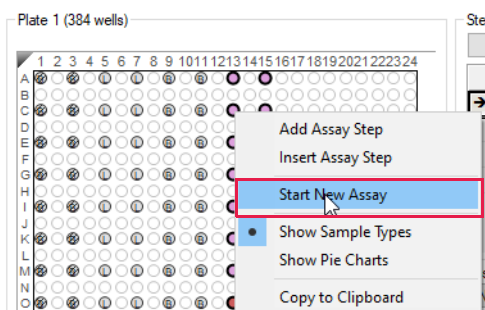

Figure 10-46: Start New Assay
2. Right-click to view the shortcut menu and select **Start New Assay** (see Figure 10-46).